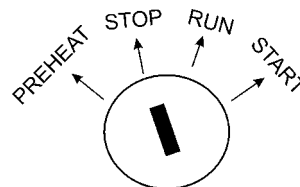

Figure 69. Engine Starter Switch (STOP)
6. If the engine is equipped with the engine throttle lever, turn the key to "STOP" position (Figure 69).